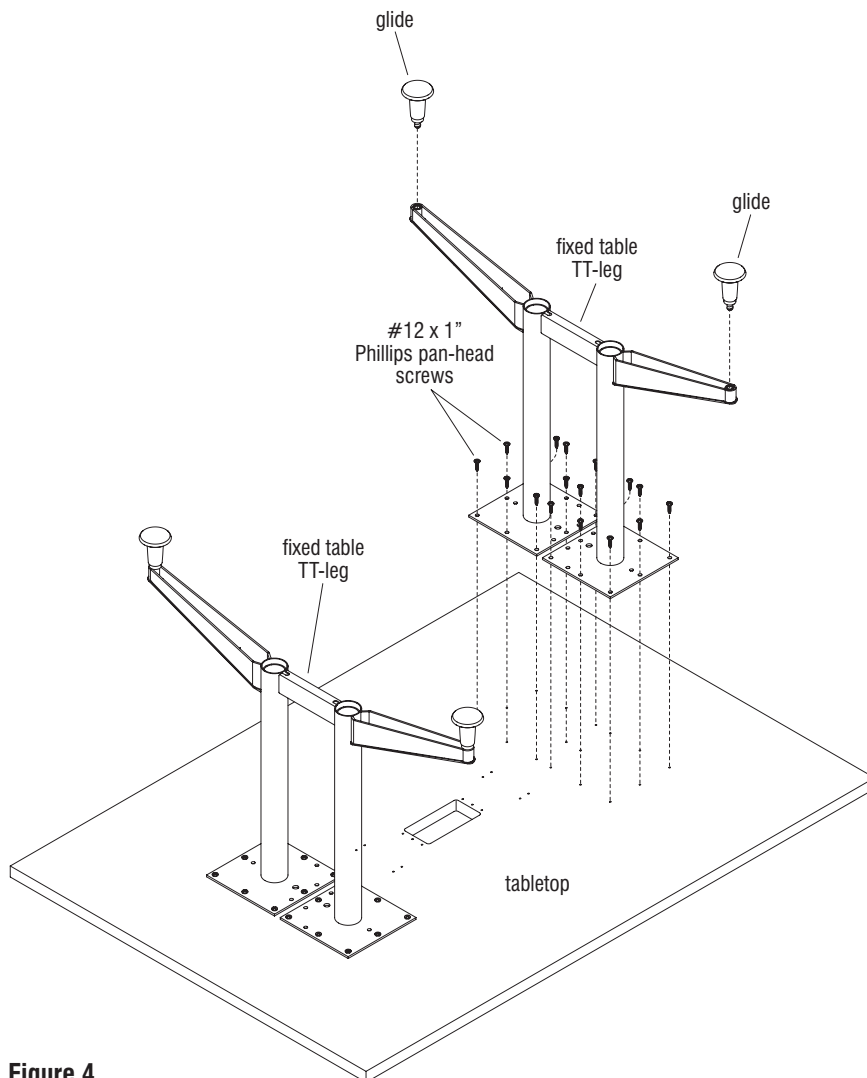

Figure 4
2. Place tabletop upside down on a soft, protective surface (Figure 4).
3. Position each fixed-table TT-leg over pre-drilled mounting holes in the underside of the table as illustrated. Secure the table legs to the top using all sixteen #12 x 1" screws through the TT-leg's mounting plates (Figure 4).
4. To attach glides, thread stem into bottom of leg by hand (Figure 4).